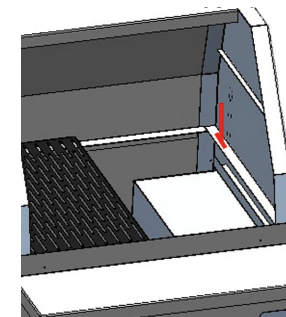

FIG. 4
- As done in the previous step, use the provided template to mark holes where probe will be mounted - see Fig. 4
- Fig. 4 shows end result